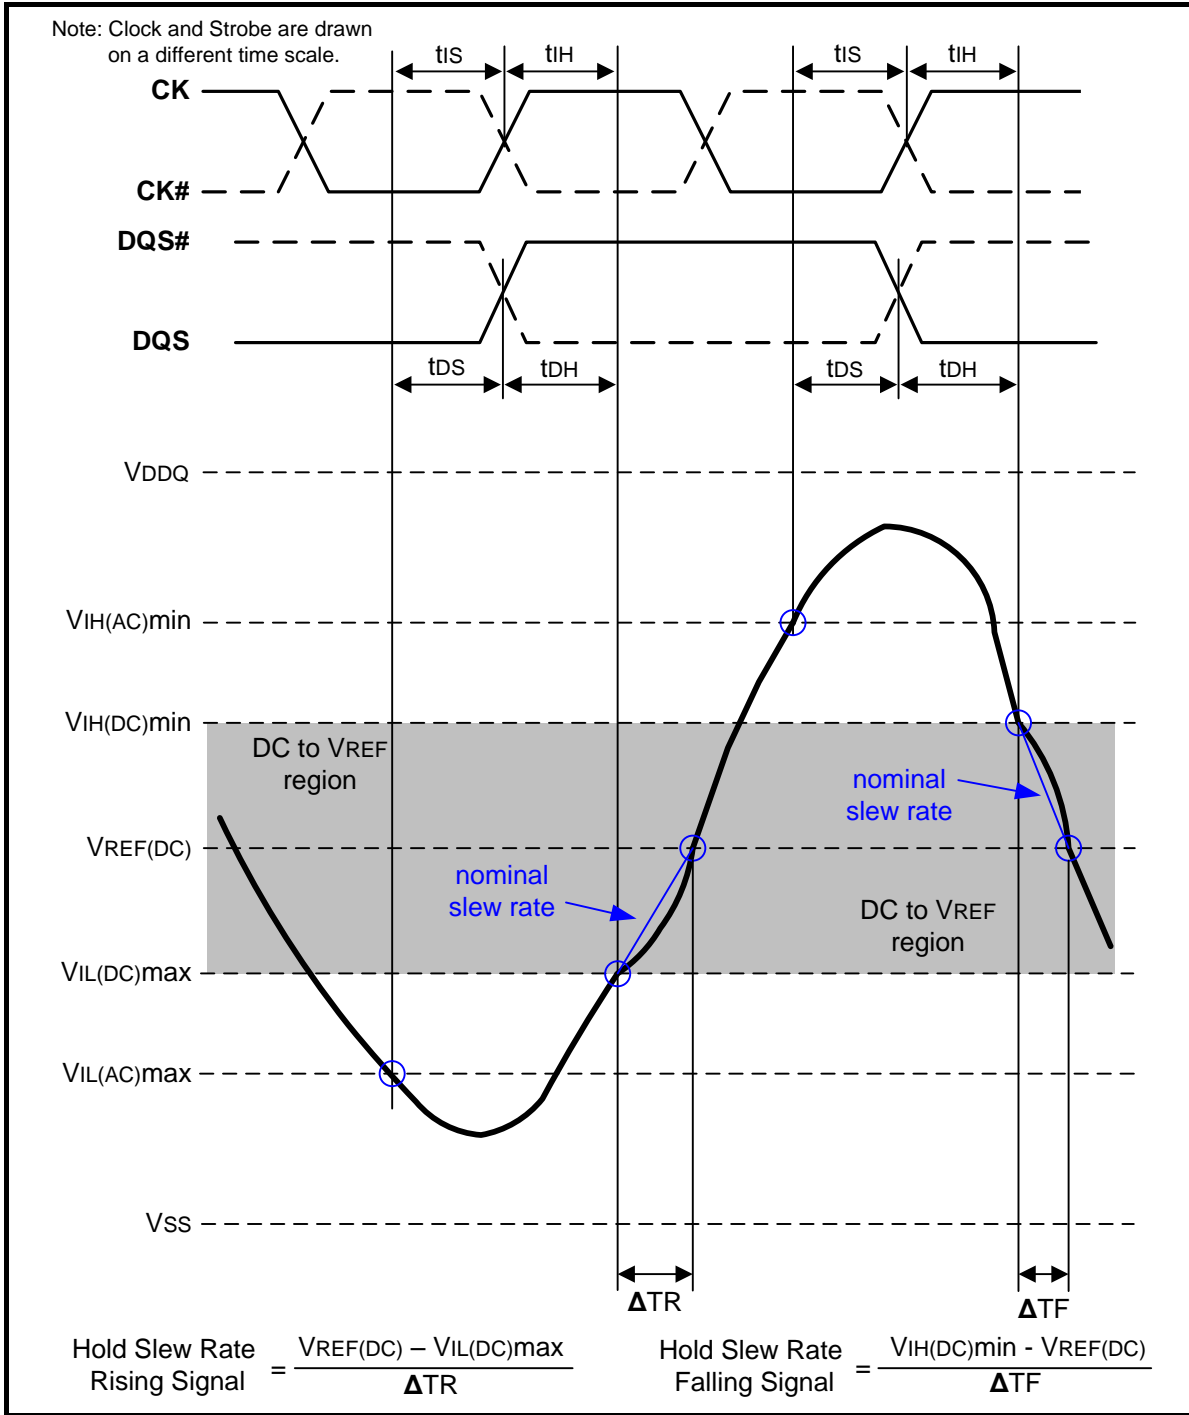
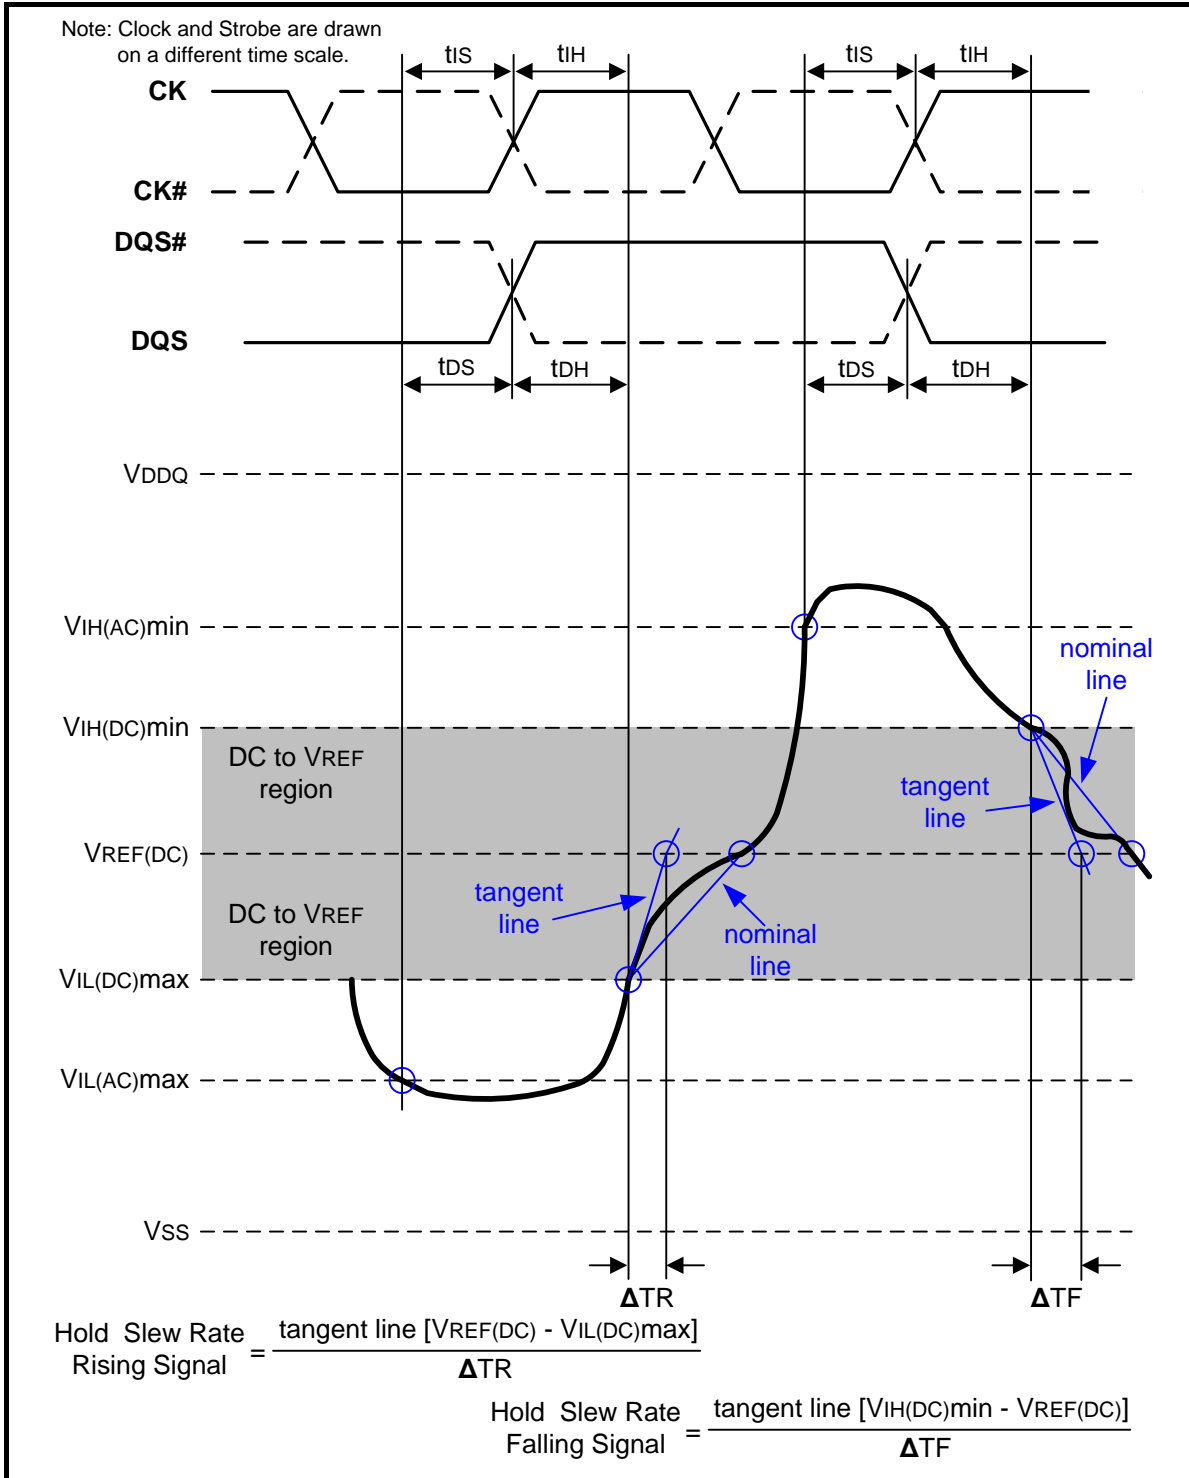

Figure 108 – Illustration of nominal slew rate for hold time  $t_{DH}$  (for DQ with respect to strobe) and  $t_{IH}$  (for ADD/CMD with respect to clock)
Figure 110 – Illustration of tangent line for for hold time tDH (for DQ with respect to strobe) and tIH (for ADD/CMD with respect to clock)
Hold ( $t_{IH}$ ) nominal slew rate for a rising signal is defined as the slew rate between the last crossing of  $V_{IL(DC)max}$  and the first crossing of  $V_{REF(DC)}$ . Hold ( $t_{IH}$ ) nominal slew rate for a falling signal is defined as the slew rate between the last crossing of  $V_{IH(DC)min}$  and the first crossing of  $V_{REF(DC)}$ . If the actual signal is always later than the nominal slew rate line between shaded 'DC to VREF(DC) region', use nominal slew rate for derating value (see Figure 108). If the actual signal is earlier than the nominal slew rate line anywhere between shaded 'DC to VREF(DC) region', the slew rate of a tangent line to the actual signal from the DC level to  $V_{REF(DC)}$  level is used for derating value (see Figure 110).
Hold (tDH) nominal slew rate for a rising signal is defined as the slew rate between the last crossing of VIL(DC)max and the first crossing of VREF(DC). Hold (tDH) nominal slew rate for a falling signal is defined as the slew rate between the last crossing of VIH(DC)min and the first crossing of VREF(DC) (see Figure 108). If the actual signal is always later than the nominal slew rate line between shaded 'DC level to VREF(DC) region', use nominal slew rate for derating value. If the actual signal is earlier than the nominal slew rate line anywhere between shaded 'DC to VREF(DC) region', the slew rate of a tangent line to the actual signal from the DC level to VREF(DC) level is used for derating value (see Figure 110).